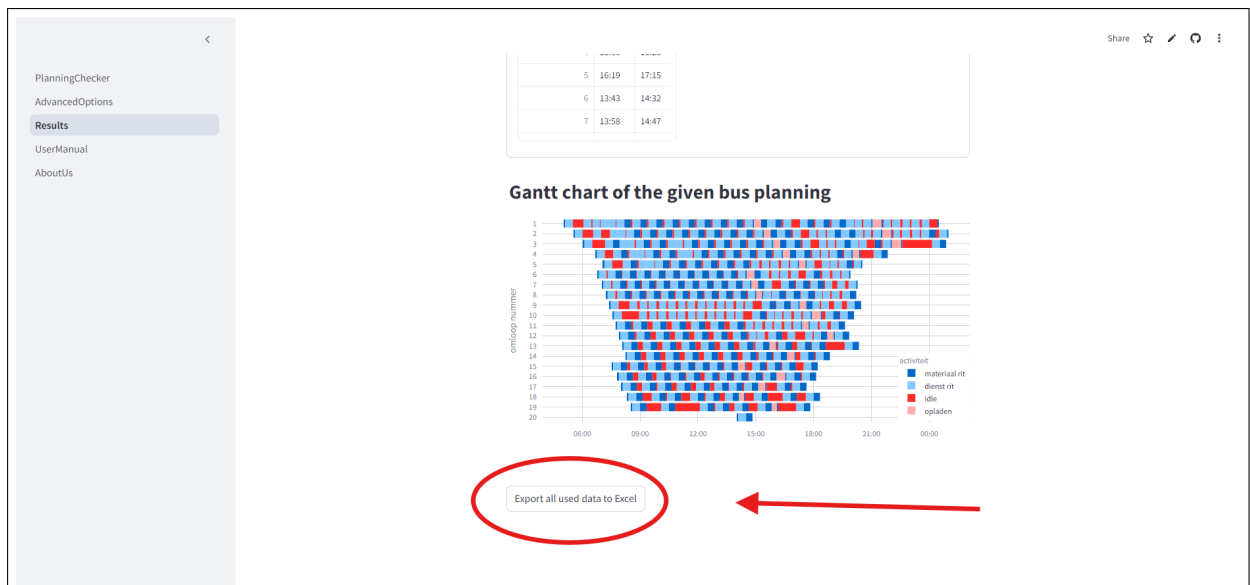

Figure 8: An example of a results screen with the 'Export all used data to Excel' button highlighted.
- **New data:** A lot of data is calculated using the set settings. Press the 'Export all used data to Excel' button and a new Excel file will be automatically downloaded containing the new data (see figure 8).